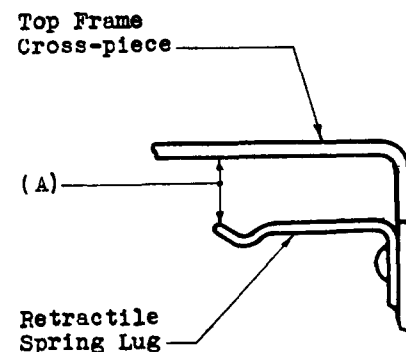

Fig. 5
**2.13 Location of Tip of Retractable Spring Lug:** Fig. 5(A)